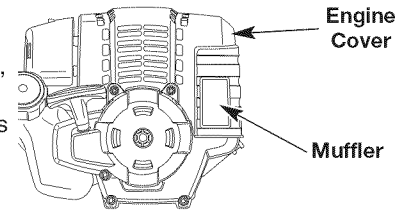

Fig. 41
- Remove the engine cover (Fig. 41).